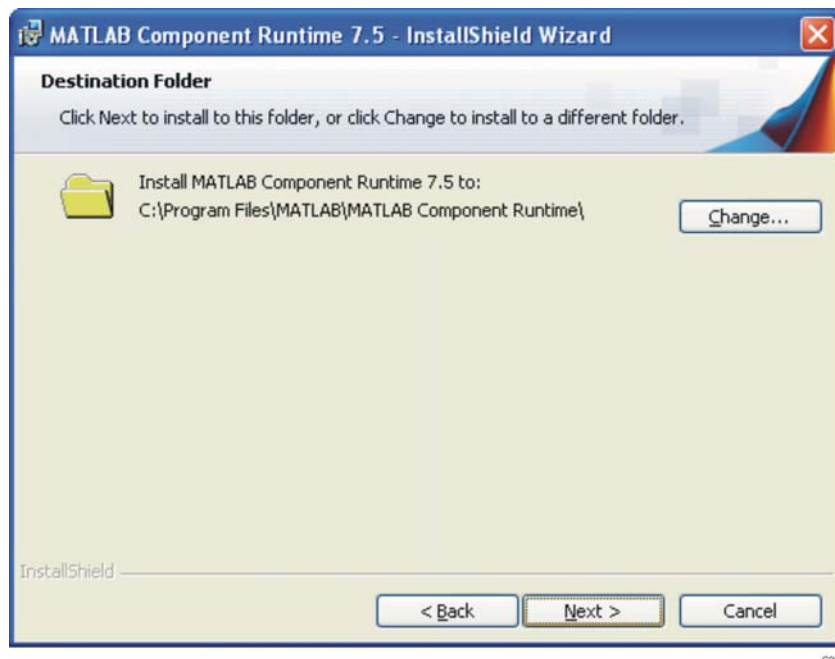

Figure 9. Destination Folder
4. When the *Destination Folder* screen (Figure 9) displays, click *Next* to install the MATLAB software in the default directory.